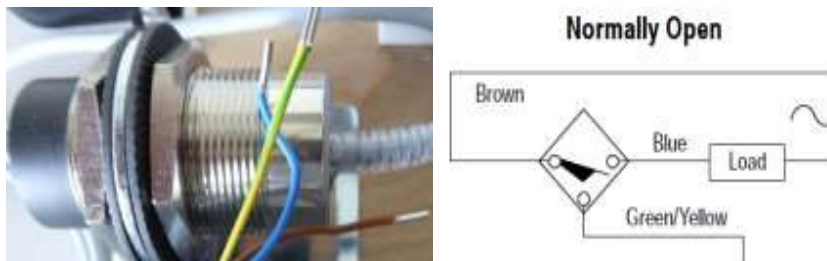

Figure 1: AB 872C-A15N30-A2 AC proximity switch and the cut-sheet wiring diagram
2. Locate the proximity switch on the NSCC wiring boards. Identify the wire colors and how the unit will be wired from Figure 1. Notice the brown wire is the L1, hot wire feeding the proximity switch. The blue wire is the output wire that will be wired to the load. The green/yellow wire is for grounding to minimize electro-magnetic interference that could be induced into the proximity switch.